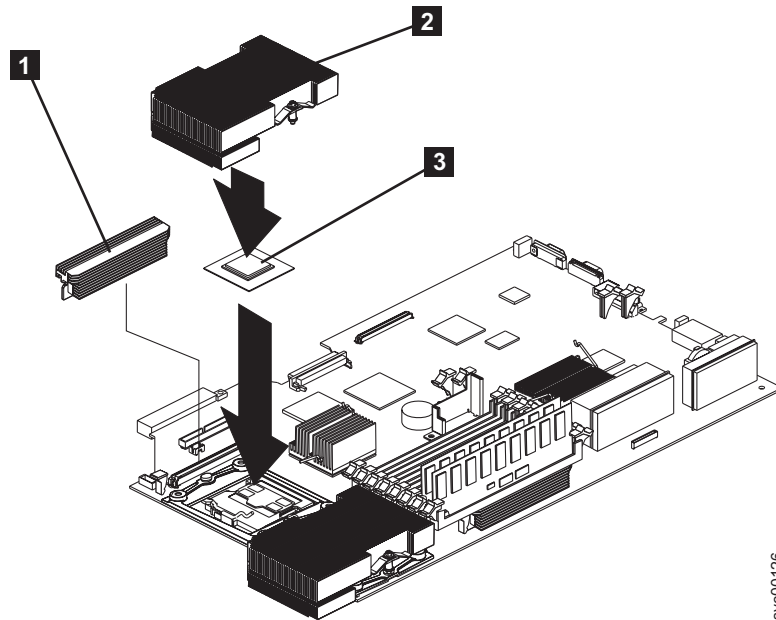

Figure 187. Microprocessor and heat sink locations
7. Install the heat sink **2** on top of the microprocessor **3**. See Figure 187.